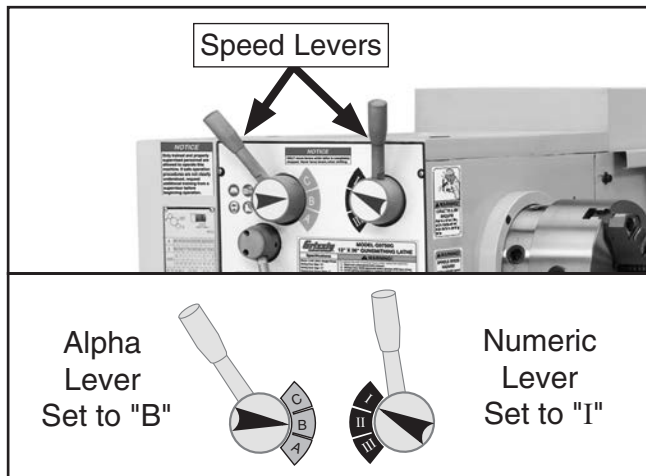

Figure 22. Spindle speed set to 70 RPM.
5. Select spindle speed of 70 RPM by moving spindle speed levers to **B** and **I** (see **Figure 22**).